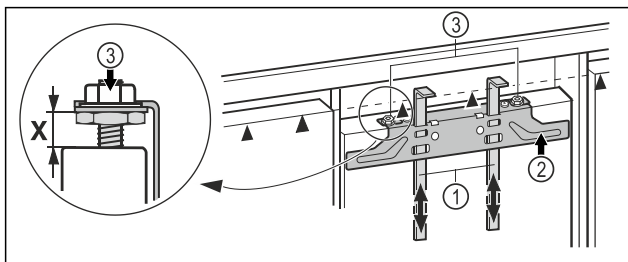

Fig. 19
- Push the assembly aids Fig. 19 (1) up to unit door height. Lower stop edge ▲ of the assembly aid = upper edge of the unit door to be assembled.
- Unscrew the fastening bar Fig. 19 (2) using the lock nuts Fig. 19 (3).